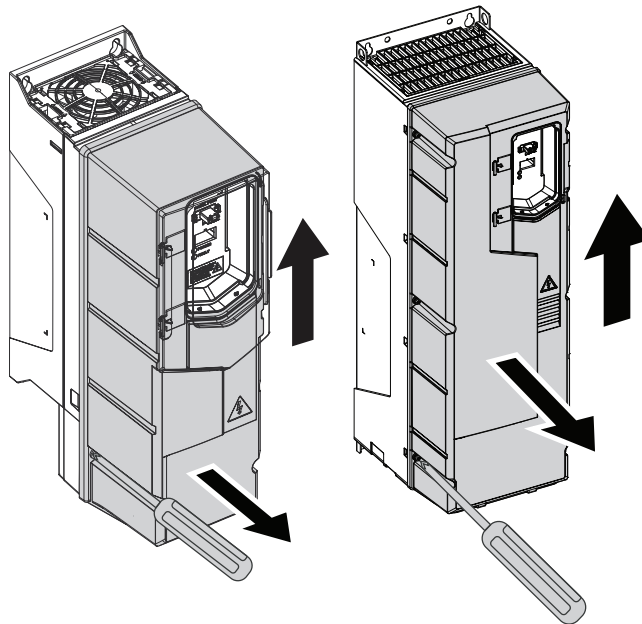

Fig. 45 — Remove Drive Cover (R1 and R2 Frame Sizes)
2. Remove the drive cover (see Fig. 45).
3. Remove the front cover by loosening the retaining screw. See Fig. 45.